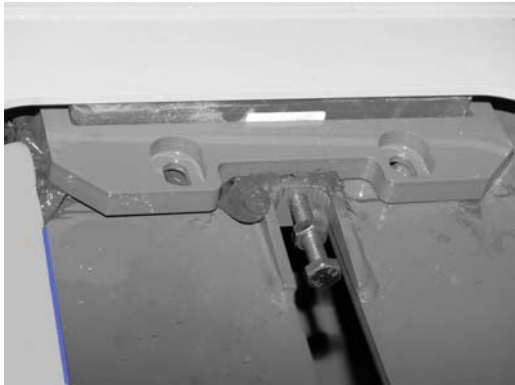

FIGURE 4-84
6. Install top wear pad adjusting assembly inside Base section at top rear access opening (Figure 4-84).